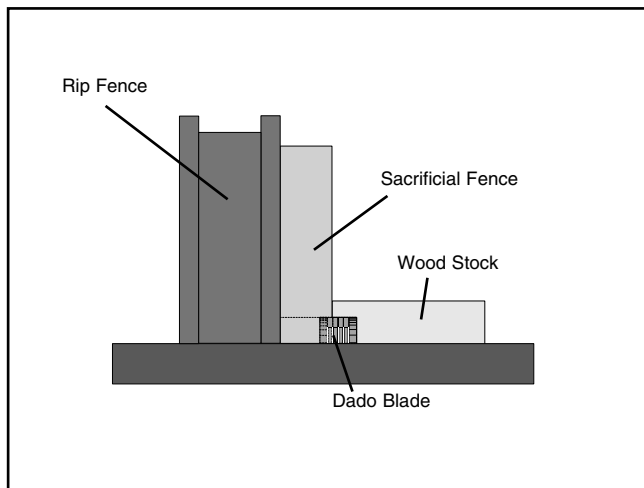

Figure 41. Rabbet cutting.
5. If rabbeting along the length of your workpiece, adjust the distance between the fence and the outside edge of the blade to suit your needs. See **Figure 41**. When cutting across the wood grain, use the miter gauge as a guide while rabbeting. **Remember:** Never use the fence as a stop in conjunction with your miter gauge.